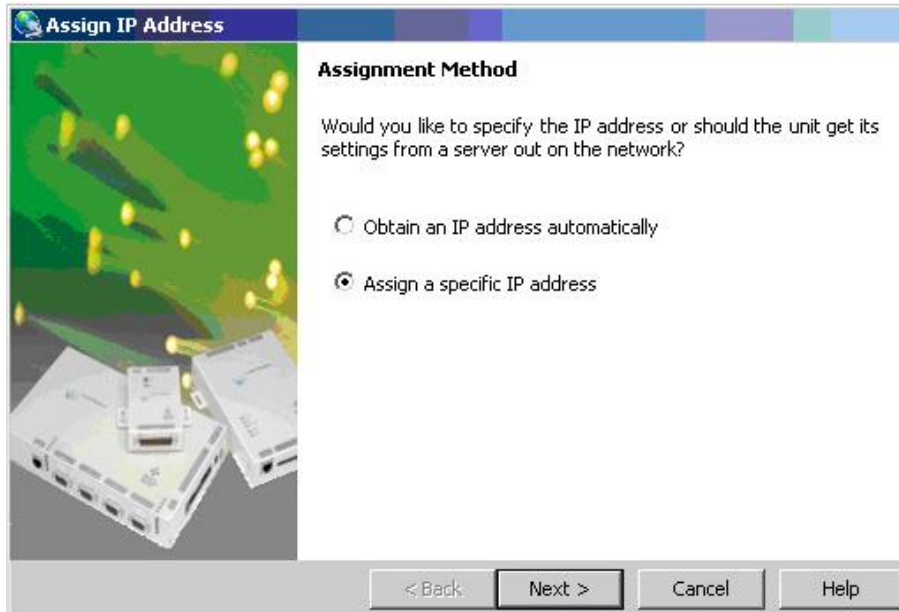

Fig. 4
4. Select "Assign a specific IP address" (Fig. 4) and click Next.